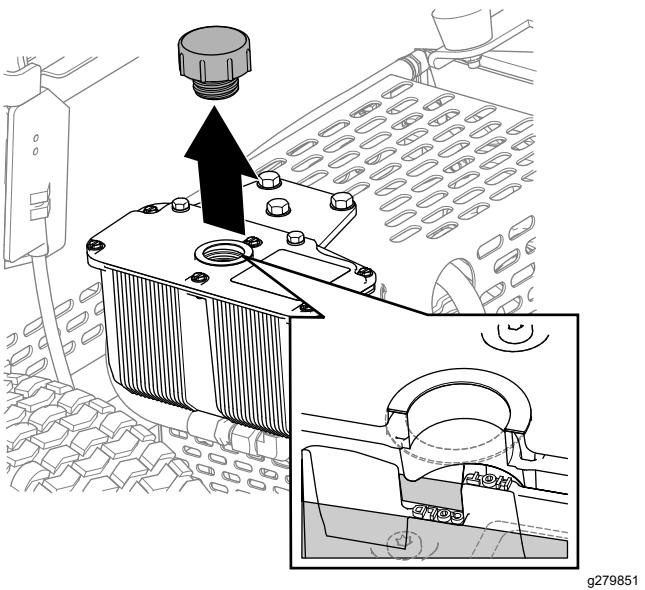

Figure 36
3. Remove the cap and check hydraulic-fluid level in the reservoir (Figure 36).